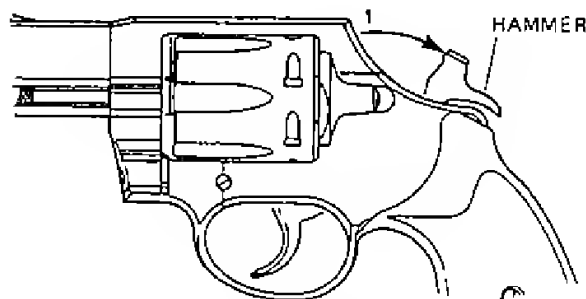

FIGURE 5—COCKING-SINGLE ACTION
3. (S) 1. *To fire single action*, grasp revolver by its grip, keep fingers away from trigger and draw hammer fully back (about an inch) to the cocked position where it will be held to the rear (See Figure 5). Remove thumb from hammer spur.